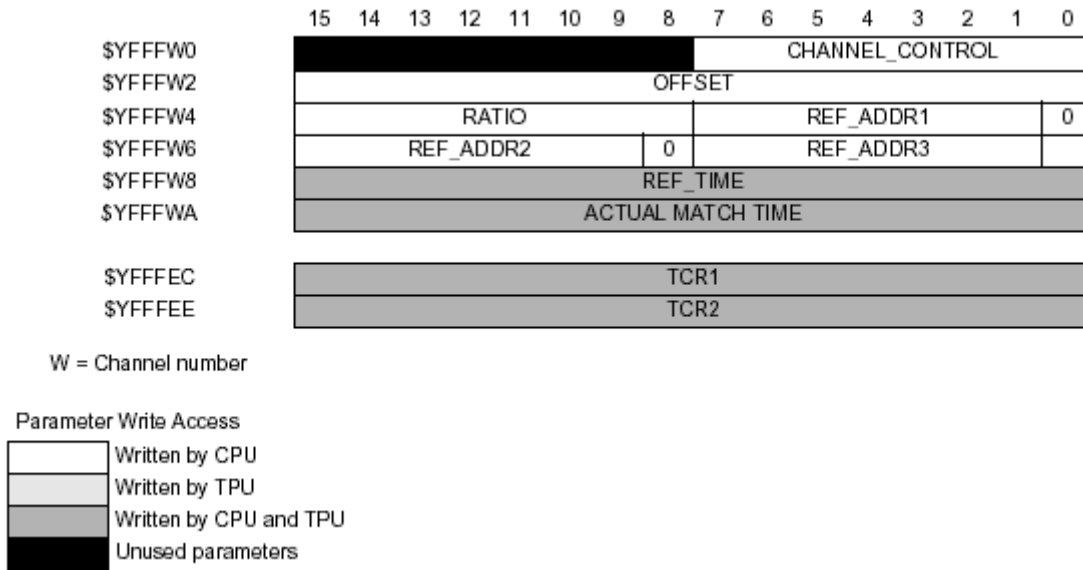

Figure 4. Parameter RAM Assignment
This section provides detailed descriptions of output compare function parameters stored in channel parameter RAM. Table 1 shows TPU parameter RAM address mapping. Figure 4 shows the parameter RAM assignment used by the OC function. In the diagrams, Y = M111, where M is the value of the module mapping bit (MM) in the system integration module configuration register (Y = 0x7 or 0xF).